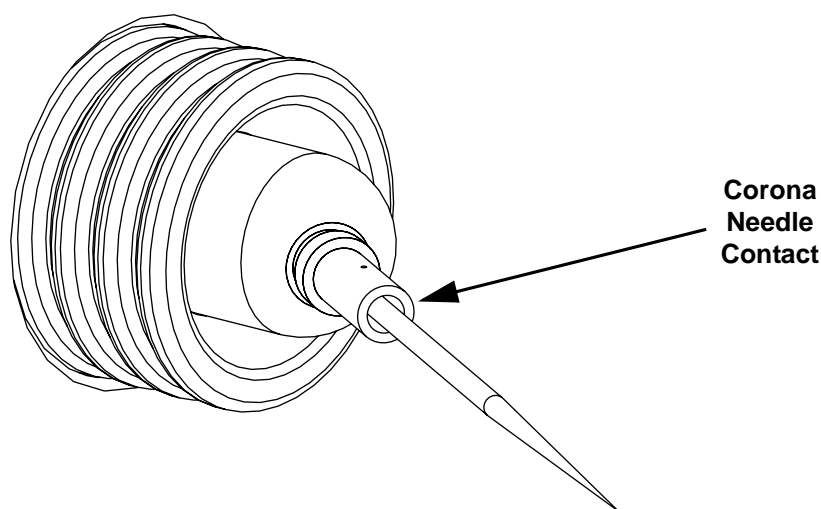

Figure 6-3. Corona needle, view from rear
1. Using pliers, grasp the needle by the corona needle contact and push the needle straight into the needle socket in the Ion Max ion source housing. See Figure 6-3.